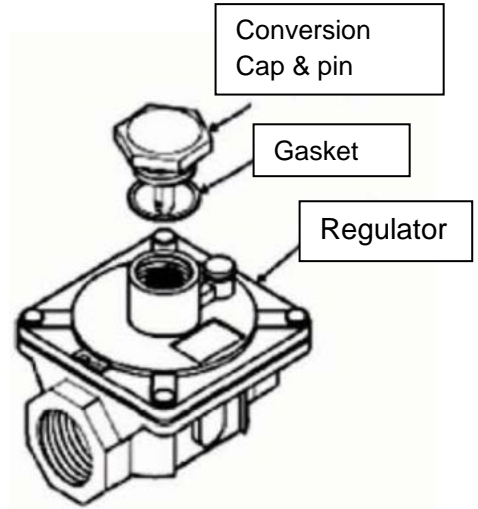

fig. 1 Gas pressure regulator
7. To operate with LP gas the regulator must be changed to operate at 10" WC. (see fig.1) To do this remove the converter cap and pin from the regulator, remove the pin and insert then reinstall in the cap. Replace the cap on the regulator taking care that the gasket is in place on the cap.